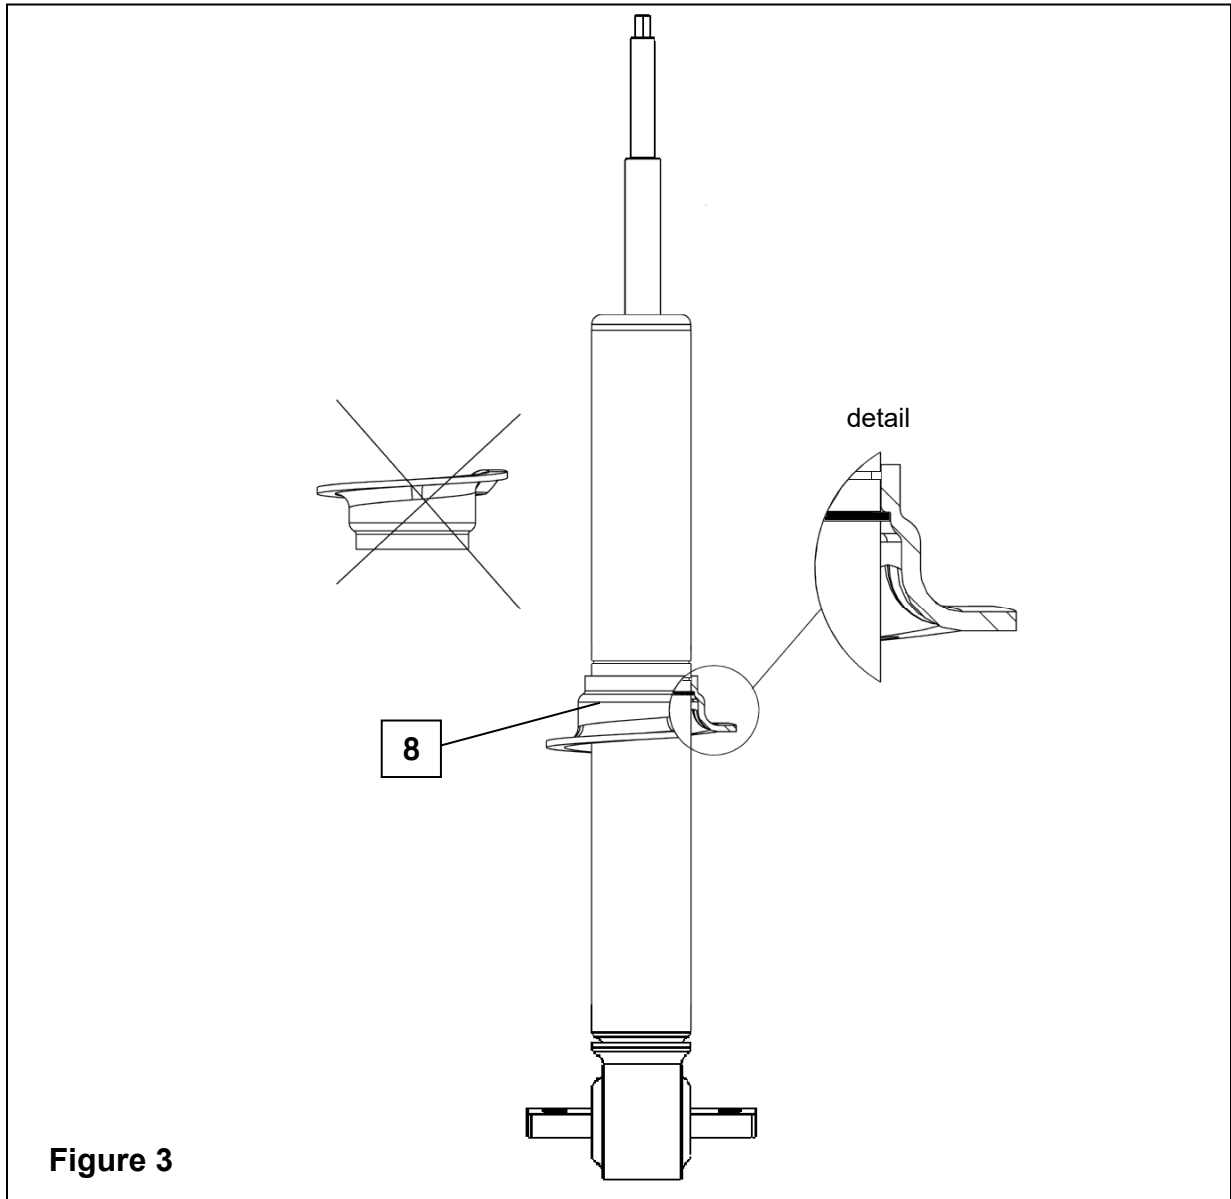

Figure 3
- E. Install the spring seat (8) on to the shock body (with the smaller end up) such that the groove inside the spring seat fits over the circlip on the shock body. Install the spring seat in the direction shown only. The circlip must fit completely in the groove inside spring seat (see detail). Refer to Figure 3. Improper installation will cause permanent damage to the shock!